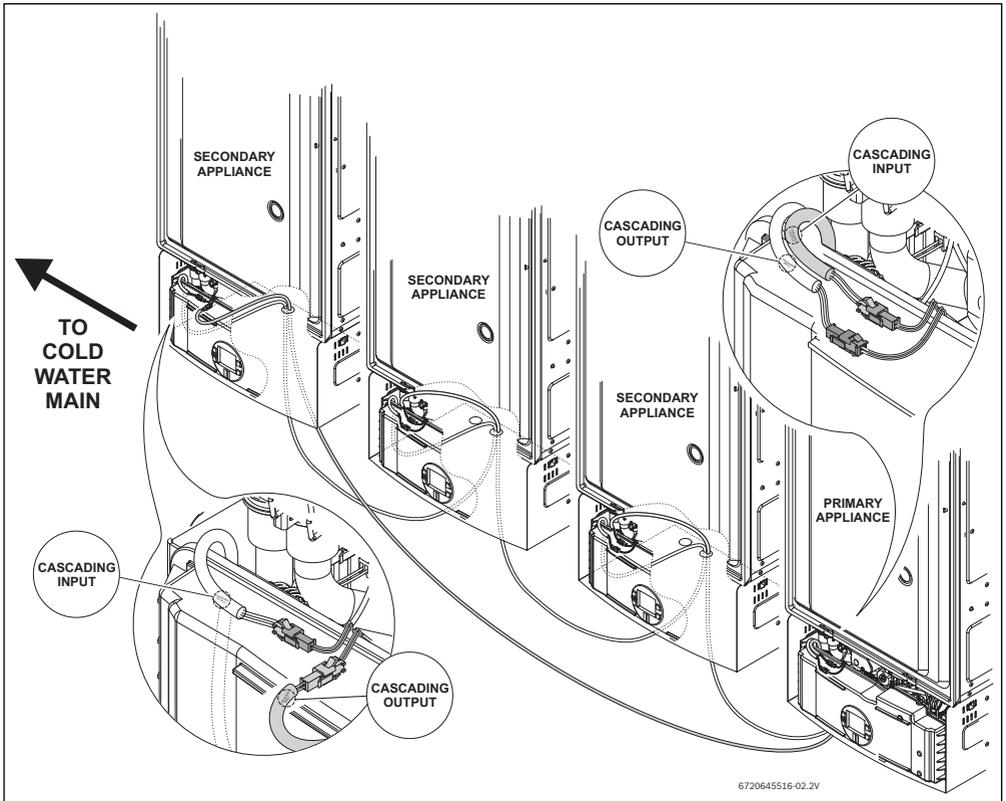

Fig. 8 Example of installation for: C1210 ES, C1210 ESC, C1050 ES, C950 ES, 940 ES, 830 ES
- Connect units in a row from the first to the last unit and then connect the last unit to the first one to close the ring (fig. 8).